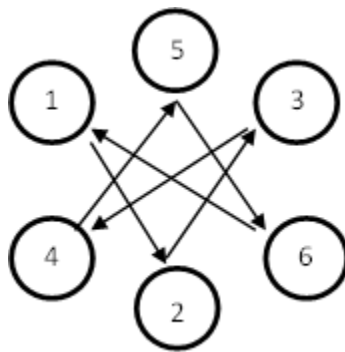

Figure 7: Propeller extension bolt replacement sequence
- Step 4: Support the propeller and replace the M8 bolts one by one. This will allow the propeller to remain attached during the replacement process. The bolts should be replaced in accordance with the sequence shown in Figure 7. Loctite 243 should be applied to the threaded section of each replacement bolt before it is installed. Ensure that only one bolt is replaced at a time, and it gets torqued to the correct torque value of 24 Nm, before the next bolt is replaced.